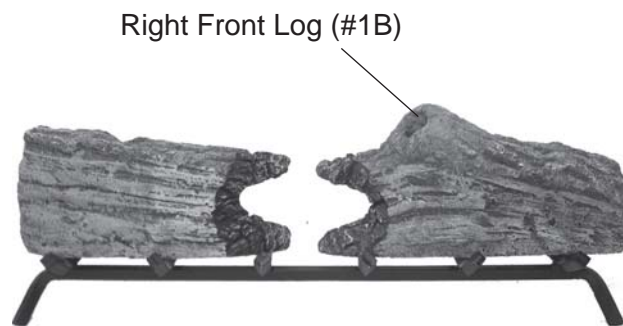

Figure 113 - Placing Right Front Log (#1B) on Grate
3. Place Right Front Log #1B on front right of the grate. *See Figure 113.*